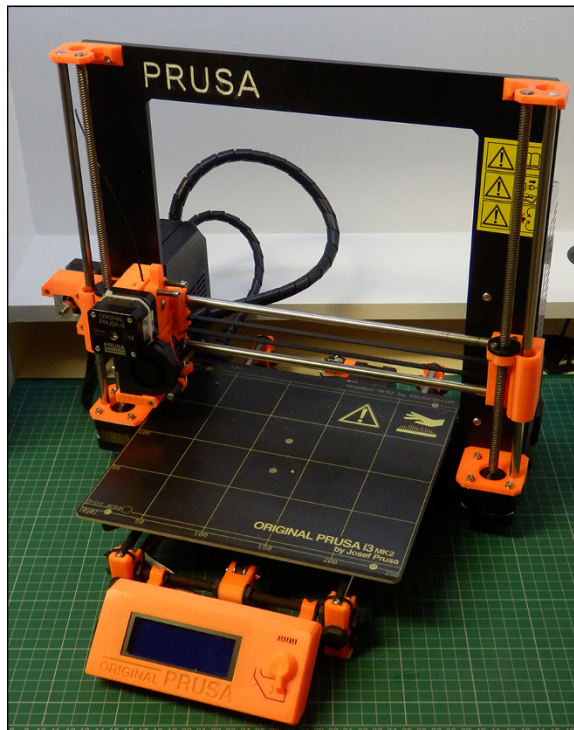

FIGURE 11-10:
- » **Prusa i3 MK2:** This 3D printer (see Figure 11-10) is one of the last commercially available kits with significant global sales. It's a great way to get into 3D printing because the assembly experience is enjoyable and educational. Many of the tricky parts are simplified in the MK2, MK3, and MK4 models. When buying a 3D printer kit today, you should receive a highly detailed manual and you're usually not expected to solder or crimp connections. Simply assemble the mechanical parts and wire-up cables to matching connectors and set up software on a PC.